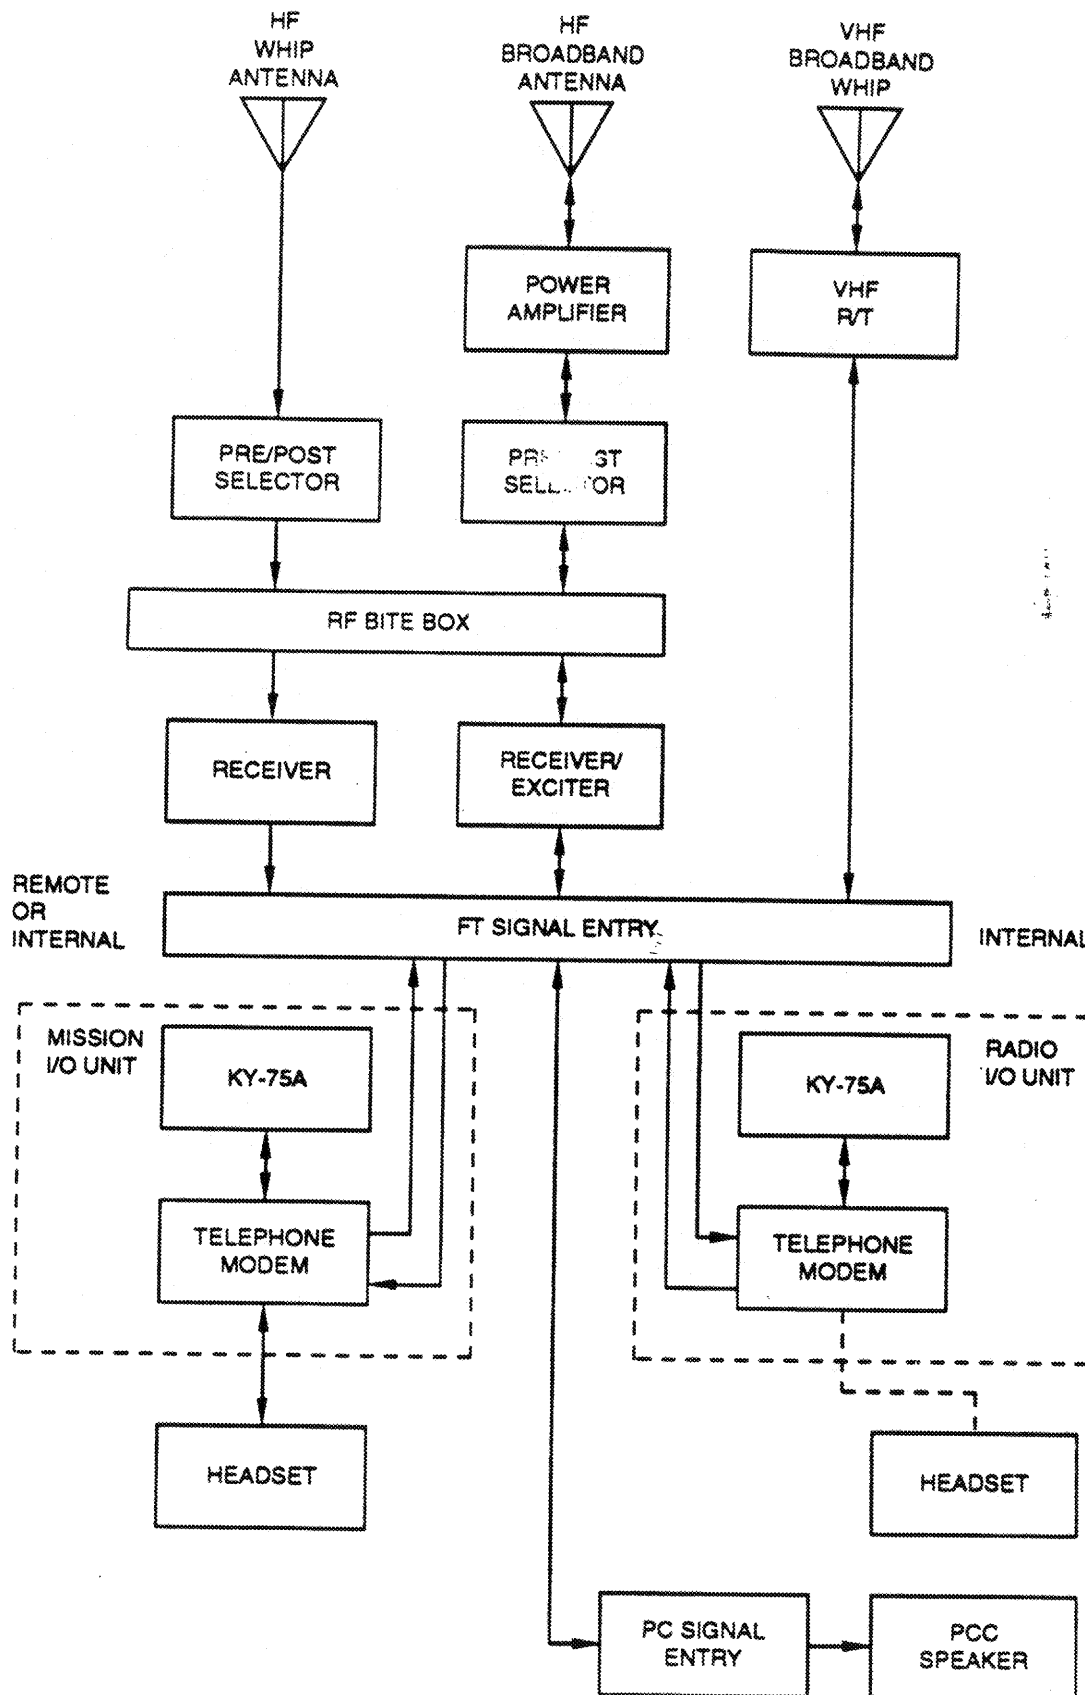

Figure 2-4. Voice Signal Flow Diagram
a. Figure 2-4 shows the Voice Signal Flow Diagram. The HF voice signals are received on the HF antenna, filtered by the pre-post selector, and applied to the receiver (or receiver/exciter). The receiver demodulates the encrypted voice signal and routes the signal to the FT signal entry, where the encrypted voice is routed to the selected I/O device. As shown in the diagram, this can be an internal or remoted I/O. The VHF transmitter may be used when an RN mission I/O has been remoted into the FAN Terminal and a wireline interconnection between the Force and FAN Terminals is not used. Once the signal reaches the I/O, the encrypted voice signal is sent to the Telephone Modem. Here it is routed to the KY-75A for decryption. The KY-75A sends the clear voice signal back to the Telephone Modem where it is routed to the handset and/or speaker.